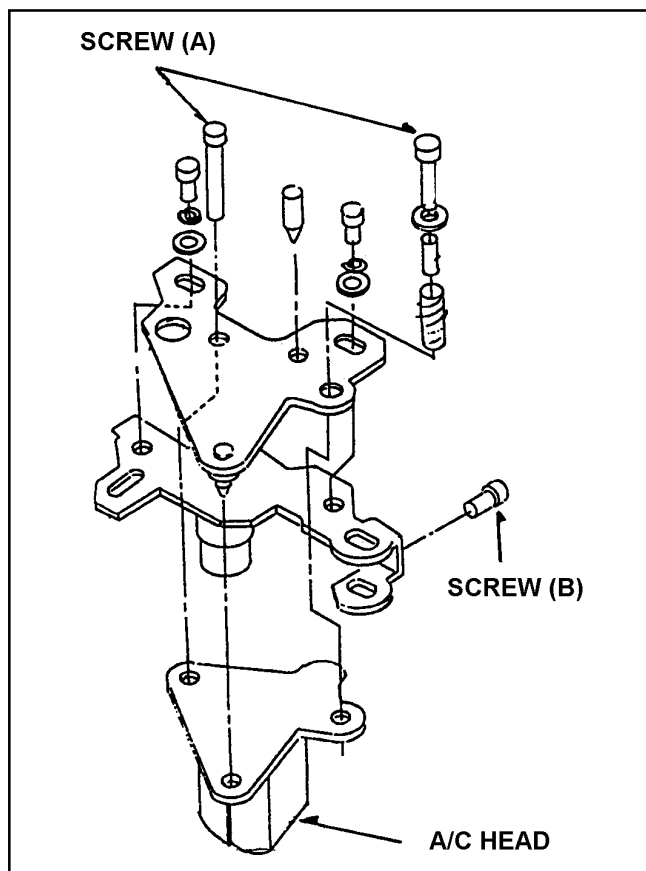

Figure 5-19-2
- Remove the 2 screws (A) and disconnect the 2 connector on the REAR JACK P.C.Board and SERVO P.C.Board, and then remove the A/C Head from the A/C Head Plate as shown in Figure 5-19-2.